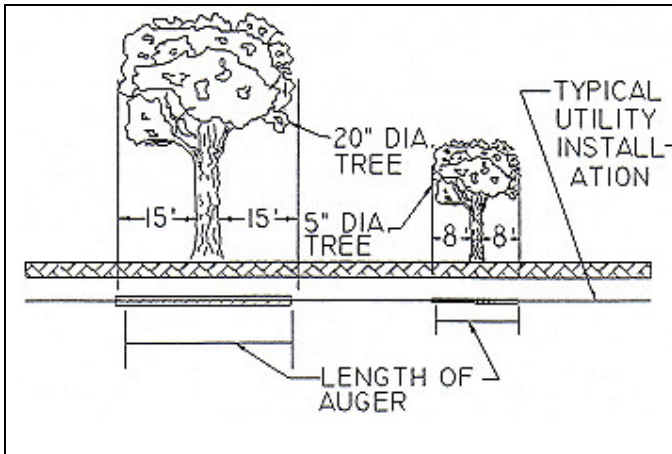

Figure 1
Any and all installations that will have impact on public trees in relation to underground utilities are subject to the review and approval of the City Forester before the project starts. When possible, a plan showing the path of the underground utility in relationship to the surrounding trees shall be submitted to the City Forester two (2) weeks before any work begins for approval of utility placement and technique. Open-cut excavating is allowed only up to the distance from various size trees, as listed below. Where there is insufficient space for trenching to bypass the Tree Protection Zone (TPZ), boring must be used in place of trenching. See Figures 1 and 2. You must bore at a minimum depth of three (3) feet. The surface area and subsoil directly adjacent to street trees shall not be disturbed as follows: